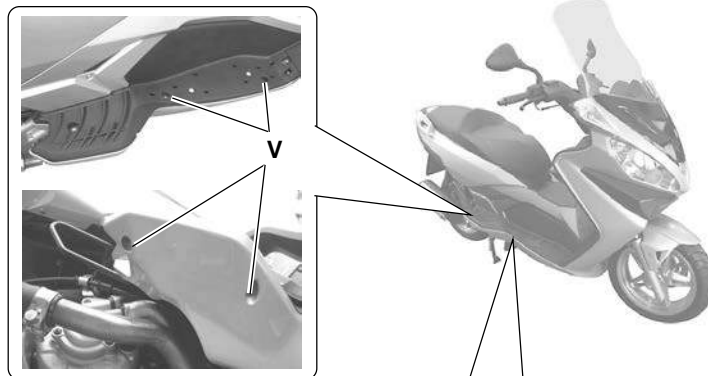
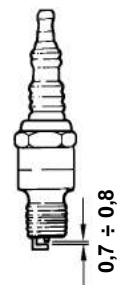

Fig. 33
Fig. 34
- For maintenance, remove the 4 screws (V - Fig. 33), widen bottom section of the chassis, move pipe (T - Fig. 34) away and remove cap by turning it alternately clockwise and anti-clockwise. Now, unscrew the spark plug using the special wrench supplied with the vehicle (all operations on the spark plug must be performed when the engine is cold).